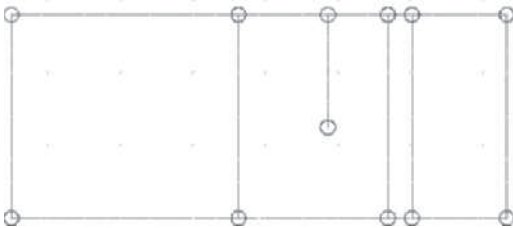

FIGURE 2.73 Cleanup radius displayed and graph line of walls
22. Move the pointer over the workspace, and press ESC to view the cleanup radii, as shown in Figure 2.73.